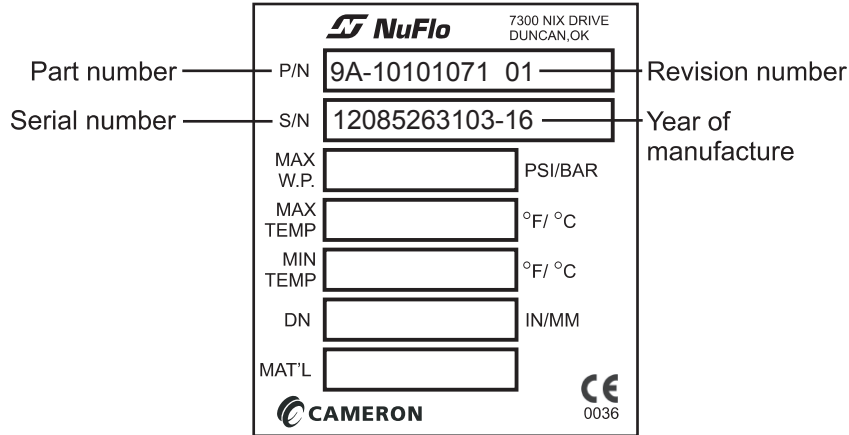

Figure 2—Example of product identification tag on flowmeter body
For easy reference, the meter specifications, including part number, serial number, material, nominal diameter (DN), and maximum working pressure, are imprinted on a stainless steel tag on the meter body (Figure 2, page 6).